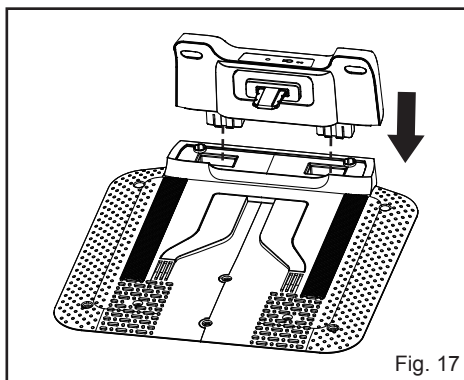

Fig. 17
- Fully insert the upper part of the base station onto the base. Ensure the upper part clicks firmly into place. Ensure the orange strips on the charging station base are facing up and clearly visible (Fig. 17).